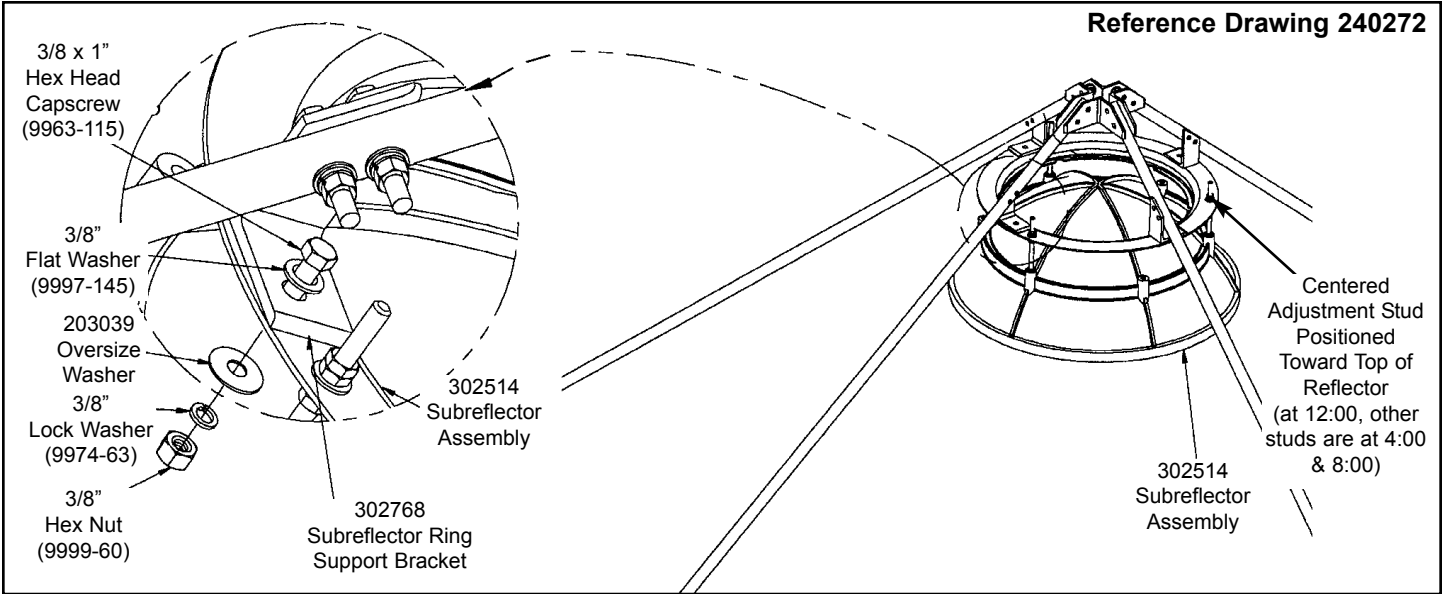

Figure 14
Step 3 | Install 302514 Subreflector Assembly to the 302768 Subreflector Ring Support Brackets as shown in Figure 14. Securely tighten all subreflector assembly hardware at this time.